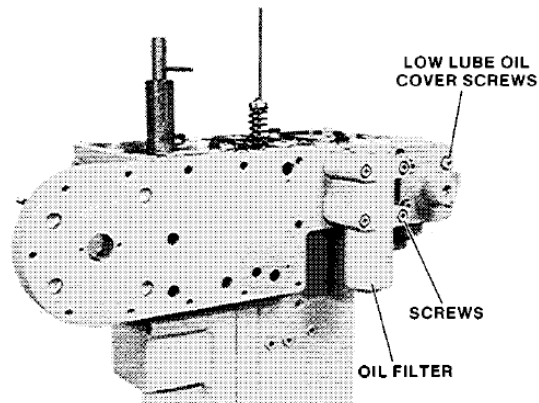

Figure 5-13. Vane Servo and Oil Filter
- 10. Remove vane servo (Figures 5-13 and 5-14).
13. Remove 4 screws and oil filter (Figure 5-13).
14. remove low-lube-oil cover, spring, gasket, and diaphragm (Figures 5-13 and 5-14).